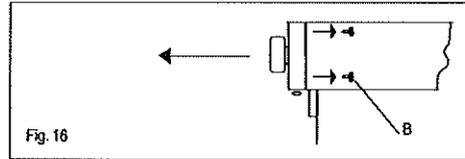

Fig. 16
- To disassemble the control panel, unscrew the 4 internal screws (B) fixing the control panel to the oven face (fig 16).